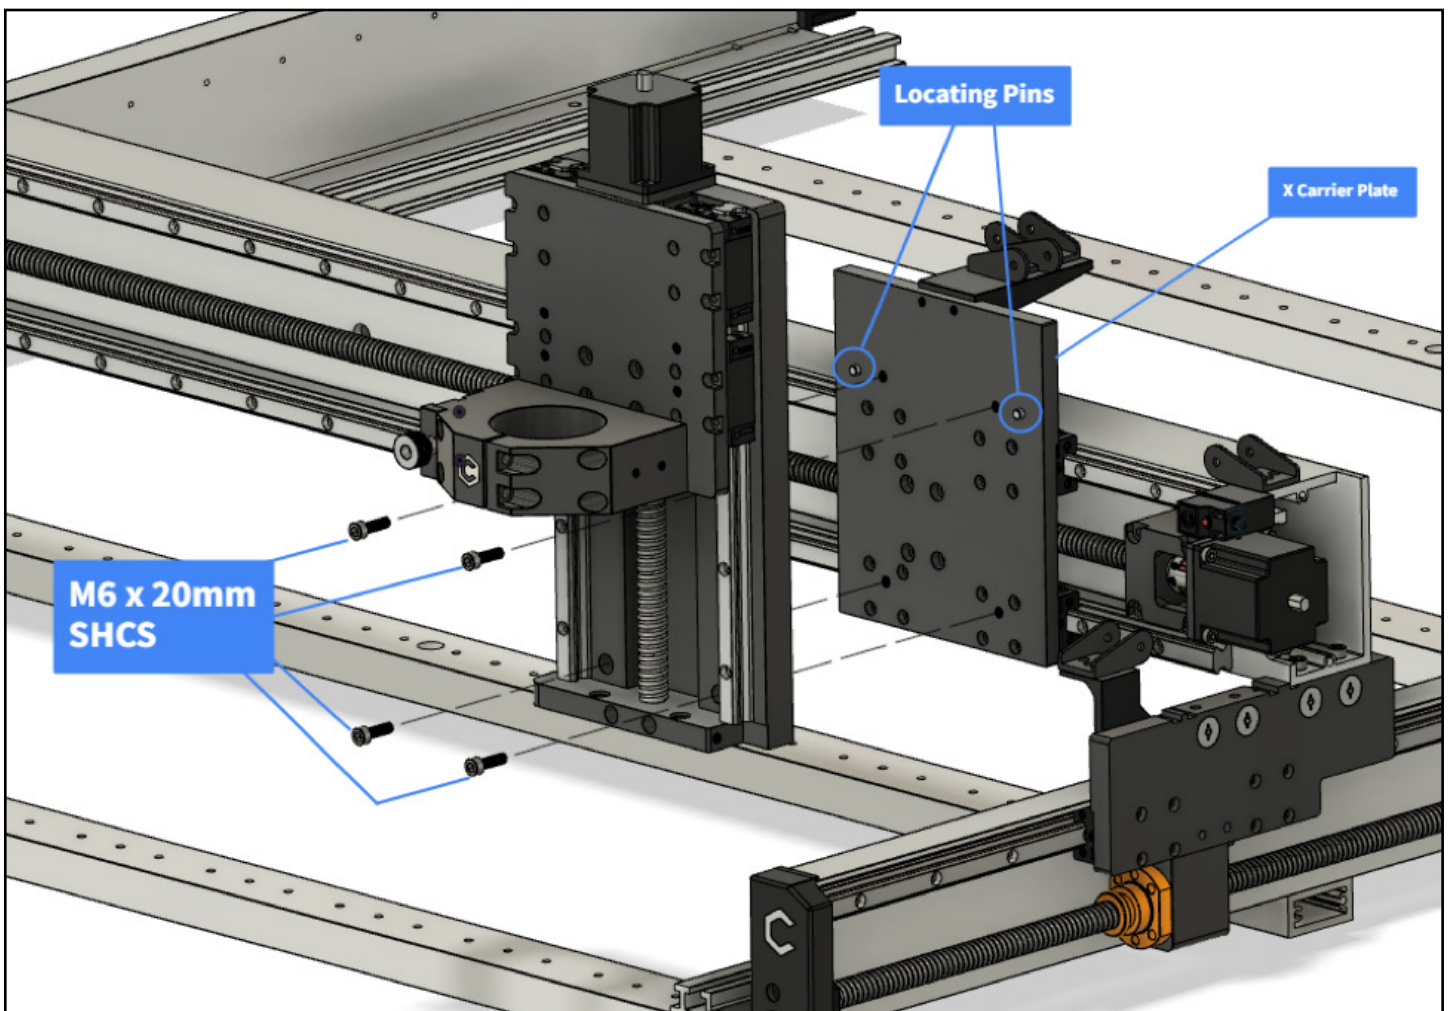

Figure 2-1
3. Align the HDZ with the two short locating pins on the front of the X-Axis carrier plate and push it onto the carrier plate. See Fig. 2-1.
4. Hold the HDZ in place as you loosely insert four (4) M6×20mm SHCS. See Fig. 2-1.